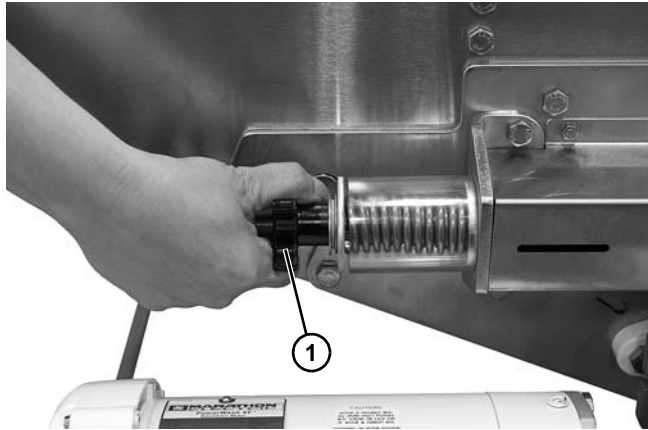

Figure 51
5. Rotate tension nut (**Figure 51, item 1**) on each side of the center drive counterclockwise to remove all tension on the belt.